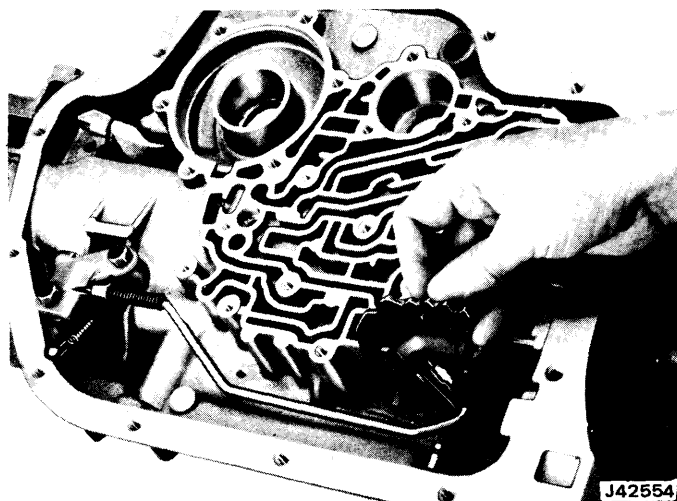

Fig. 7-134 Manual Shaft Installation
(1) Install O-ring on manual shaft.
(2) Install parking actuator rod in manual detent lever from side opposite pin.
(3) Install parking actuator rod plunger under parking bracket and over parking pawl (fig. 7-134).
(4) Install manual shaft assembly through case and detent lever, and install jamnut and retaining pin.
(5) Install retaining pin. Index pin with groove in manual shaft.
(6) Install shaft seal using socket and hammer.